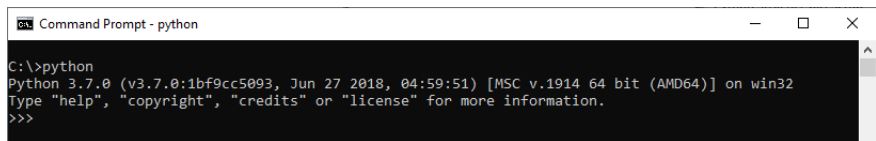

Figure 21 Python installation verification on command prompt window
- b On the root directory, type *python* and press <Enter>. See Figure 21.
- 6 On the command prompt window shown in Figure 21, you may optionally enter the following commands to install the 'NumPy', 'SciPy' and 'Matplotlib' libraries: